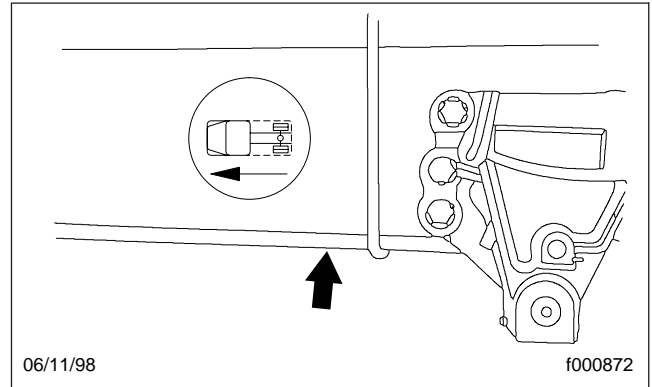

Fig. 2, Rear Jacking Points
wheel hole, mount the outer wheel so that the outer wheel balance weight(s) are on the same side of the assembly as the brake drum balance weight(s). See **Fig. 2**.
2. See **Fig. 2** for the rear jacking points.